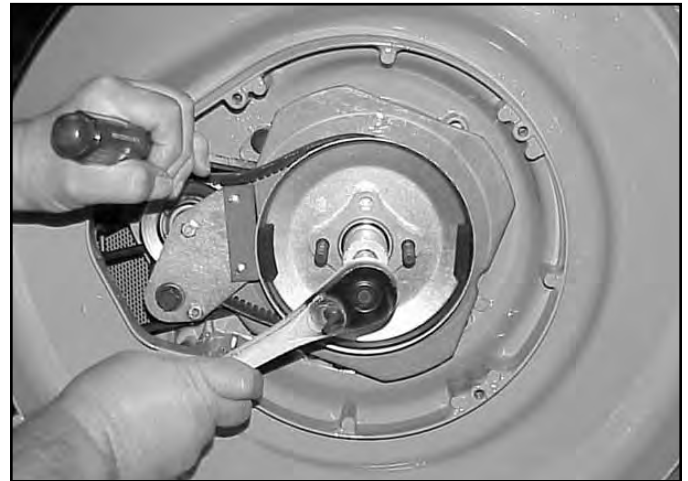

Fig 203
5. If further disassembly is required, begin by removing the crankshaft nut. An impact wrench works best. However, if you must remove it manually, use a large screwdriver or bar to wedge the BBC flywheel while removing the nut (Fig. 203).